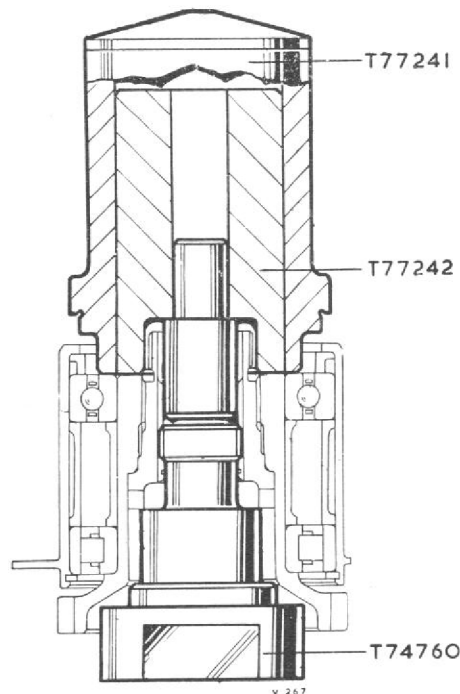

Fig. 21. Pressing the bearing assembly on to the gears
- (17) Position the bearing assembly, flange downwards, over the guide adapter and using adapter T77241 press the bearing assembly on to the gears (fig. 21).
- (18) Transfer the press block and the assembly to a bench vice.
- (19) Assemble the thrust washer, a new cup locking washer (Part No. N2873) and the ring nut.
- (20) Tighten the nut with serrated spanner T74911.